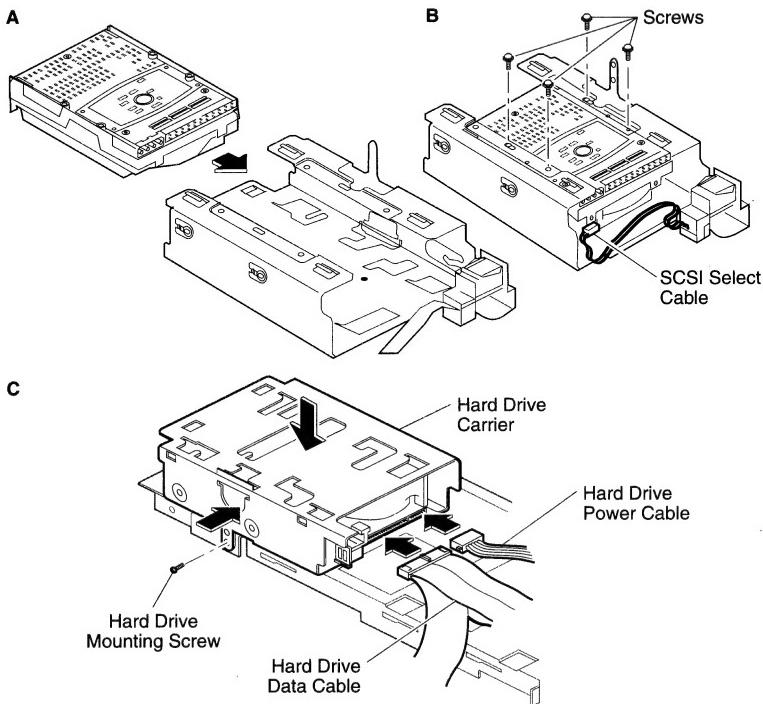

Figure 5 **Installing a SCSI Device**
4. Install the SCSI device in the drive carrier as shown in Figure 5. Be sure to connect the SCSI select switch. Also, verify that the device is not terminated.